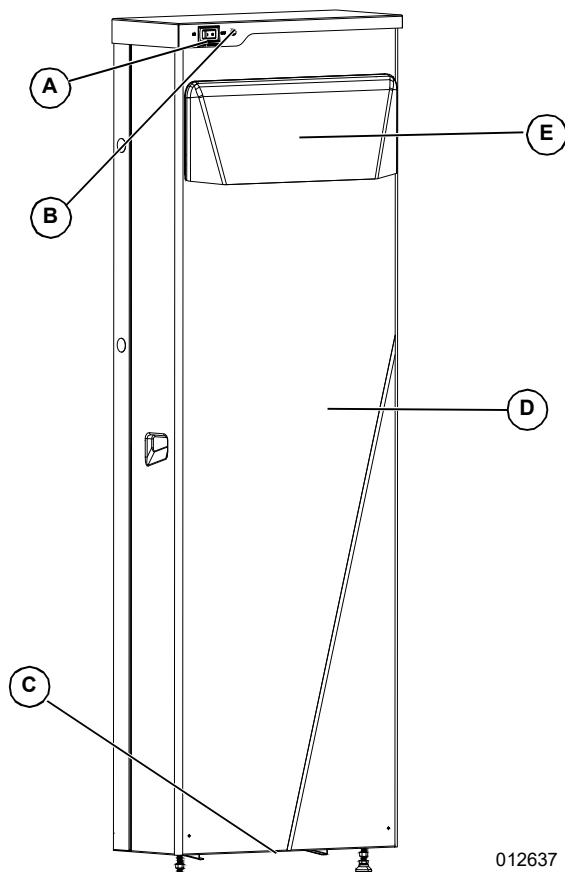

Figure 2-5. Component Locations
See Figure 2-5. Battery Disconnect Switch (A) disconnects the battery stack from the battery monitoring system (BMS) electronics.
See Figure 2-5. The color and strobing interval of LED (B) communicates battery status.